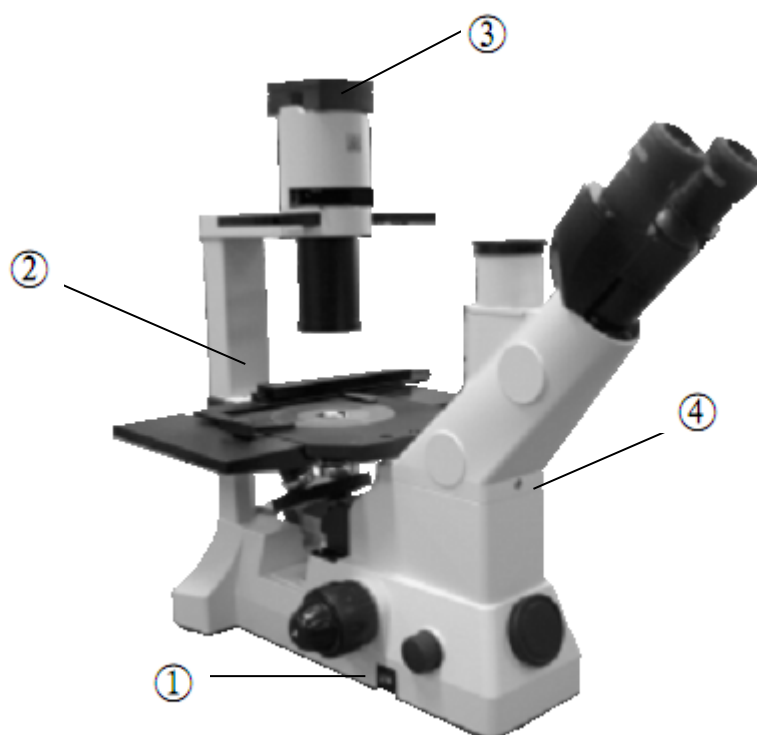

Fig.1
2. When moving the microscope, please hold the instrument by the lower side of the observation tube④ and the illumination column②. (Fig.1)
4. When working, the lamp house on the top of the arm^③ (Fig.1) will become very hot, be sure there is enough room around the lamp house (especially the top side for cooling).
5. Before replacing the lamp bulb or fuse, turn the main switch^① to the “O”(off) position, then cut off the power. If the lamp is on, or soon after it has been turned off, it is hot and will cause serious burns, please do the replacement after it cool down completely.